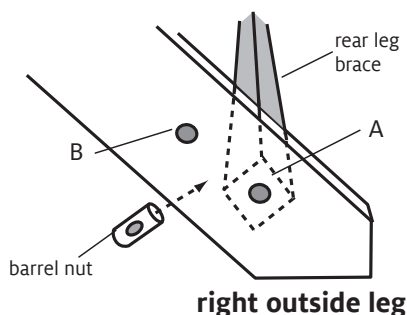

FIGURE 2: OUTSIDE LEG
3. Remove the 1/4-20 x 3" Phillips truss head machine screws and the 1/4-20 barrel nuts holding the rear leg brace from the hole closest to the floor [A] on each outside leg (Figure 2). Remove the rear leg brace; set it aside with the hardware for the next step.
5. Attach the LO and RO height extender blocks to the outside legs: insert a 1/4-20 x 1" Phillips pan head machine screw from the inner side of the leg through its bottom hole (hole [A], Figure 2), then through the hole with the threaded insert on the height extender block (3rd hole from the bottom). Repeat for other height extender block.
6. Attach the tops of the height extender blocks to the outside leg: insert a 1-3/4" Phillips truss head machine screw from the inner side of the leg through its top hole (hole [B], Figure 2), then through the top hole of the height extender block. Secure the screw from the outer side of the height extender block with a 1/4" washer and 1/4-20 lock nut. Repeat for other height extender block.